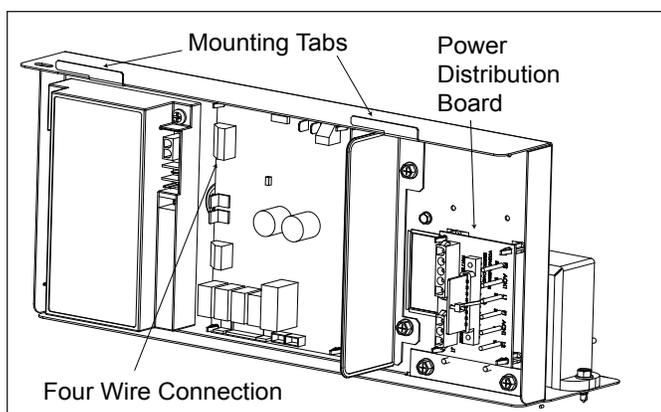

Figure 2. Mounting Tabs on Raceway
9. Slide the raceway to the right until the tabs release and the raceway drops down. See Figure 2.
10. Remove the four (4) wires (black, orange, blue and red) from the universal controller board, located in the upper left-hand corner of the terminal block, by loosening the four (4) screws. See Figure 2.
11. Remove the four (4) Phillips head screws that fasten the vent grill to the top. Remove the vent grill.
12. Remove the top by removing the three (3) hex head screws on each side. Remove the two (2) hex head screws located at the upper corners of the rear side panel and lift the top off the heater by lifting up on the rear of the top and pushing it toward the front of the heater. The top will slide off the heater.
13. Disconnect the blower wires from the power distribution board. Remove the connector from the board. See Figure 2.